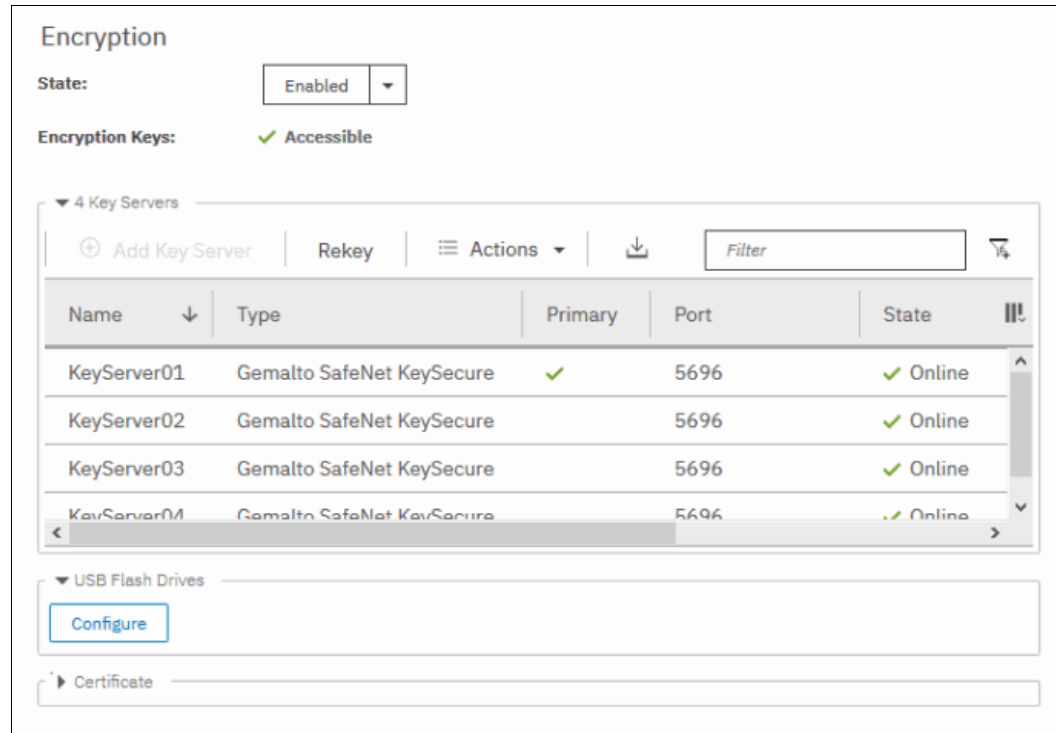

Figure 12-57 IBM SAN Volume Controller encryption configured with SafeNet KeySecure
2. Migrate from USB flash drives encryption to the other key server type encryption (in this example, Gemalto SafeNet KeySecure), following the steps that are described in 12.7.1, “Changing from USB flash drive provider to encryption key server” on page 871. After completing this step, the other key server type are configured as encryption provider in IBM Spectrum Virtualize, as shown in Figure 12-57.